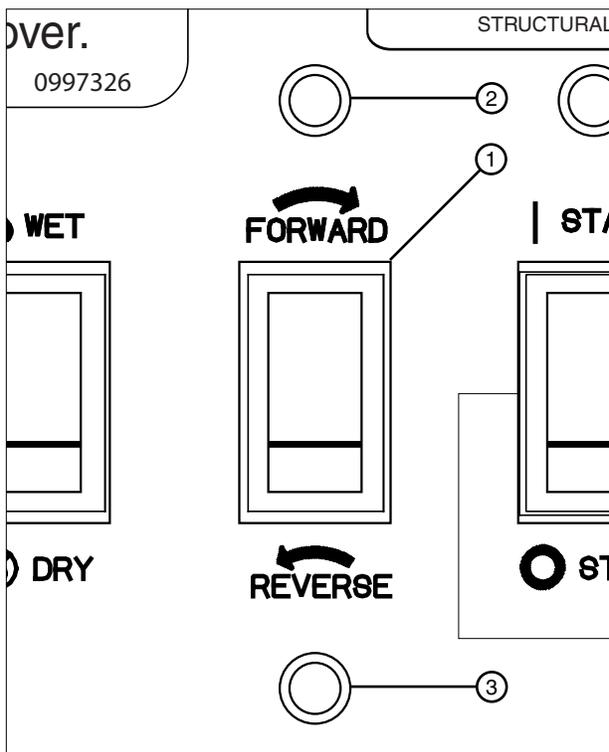

Figure 22-1 1. Forward / Reverse Switch
The forward and reverse lights are NOT available without the AR/AS option. See Figure 22-1.
- In the Forward position, the machine will run in forward or clockwise around the field when started. See Figure 22-1.
- In the Reverse position, the machine will run in reverse or counter clockwise around the field when started. See Figure 22-1.
The forward and reverse lights are included with the AR/AS option to indicate which direction the machine is moving. See Figure 22-1.
- When the switch is depressed into the forward position, the forward direction is selected, the forward light is lit and the machine will run in forward or clockwise around the field. See Figure 22-1.
- When the switch is depressed into the reverse position, the reverse direction is selected, the reverse light is lit and the machine will run in reverse or counter clockwise around the field. See Figure 22-1.